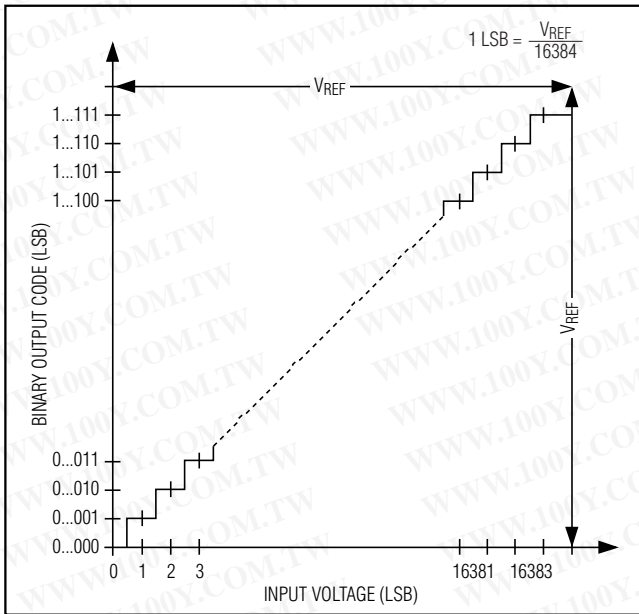
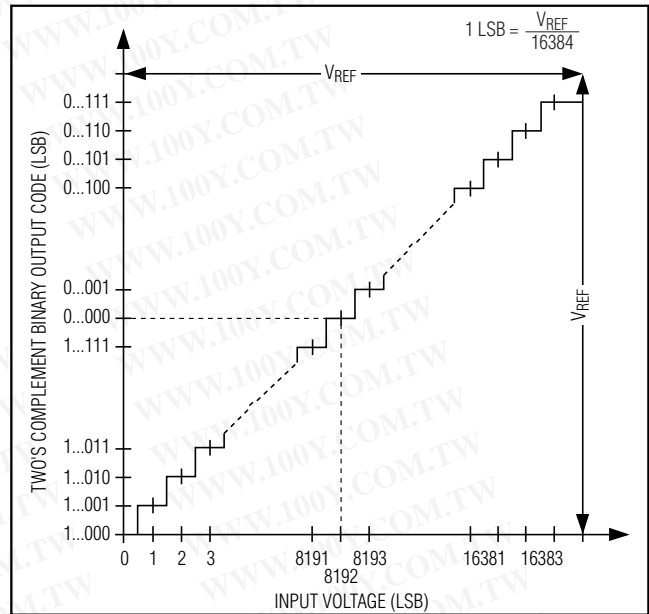

Figure 14. Unipolar Transfer Function
Figure 15. Bipolar Transfer Function
In unipolar input mode, the digital output is straight binary (Figure 14). For bipolar input mode, the digital output is two's complement binary (Figure 15). Data is clocked out on the falling edge of SCLK in MSB-first format.
Output data coding for the MAX1146-MAX1149 is binary in unipolar mode and two's complement binary in bipolar mode with  $1\text{ LSB} = (V_{REF}/2^N)$ , where N is the number of bits (14). Code transitions occur halfway between successive-integer LSB values. Figure 14 and Figure 15 show the input/output (I/O) transfer functions for unipolar and bipolar operations, respectively.